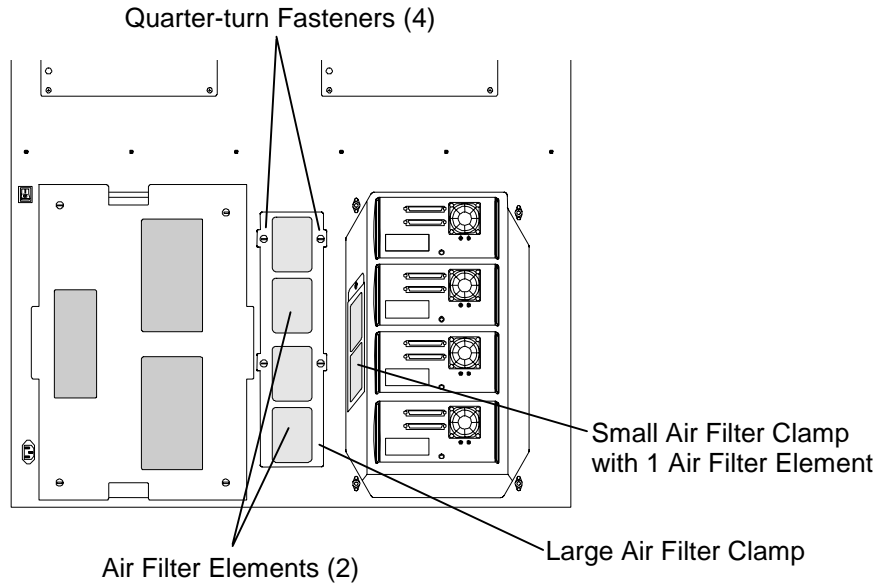

Figure 7-24 TLS Rear View – Dual Bay Model
Refer to Figure 7-24.
7. Use a flat blade screwdriver to loosen all four of the quarter-turn fasteners and carefully remove the right side access cover on the rear of the TLS (as viewed from the rear). See Figure 7-24.